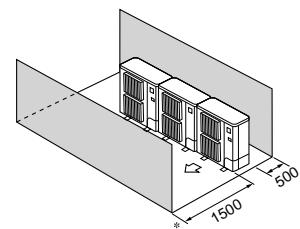

Fig. 2-12
④ Obstacles at front and rear only (Fig. 2-12)